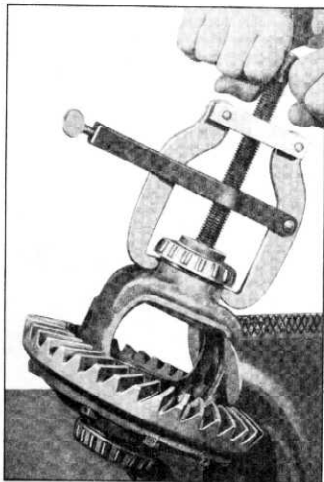

Fig. 13—Removing Differential Bearing
2. Tighten puller screw and remove bearing (fig. 13).